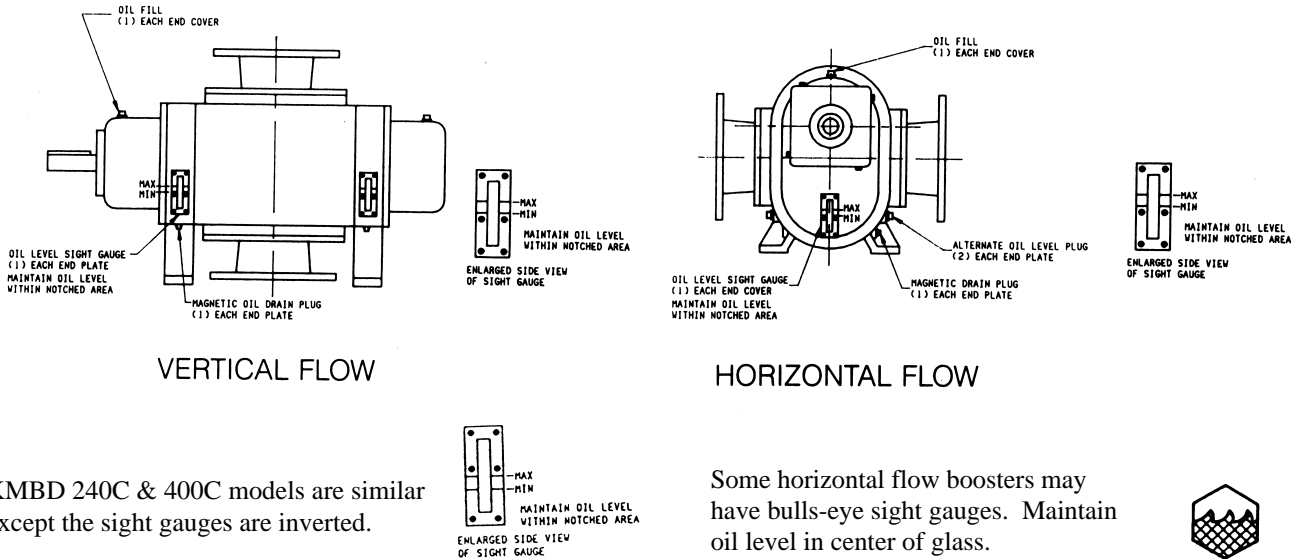

Figure 1 Lubrication
2. Pour oil through fill hole until oil appears in sight glass. Slowly bring oil up to center of glass. See Figure 1.
Check the oil for proper level at both ends of the booster. Add or drain oil as necessary to bring the oil to the correct level. See Figure 1. Too much oil particularly on the gear end can result in excessive heat generation. Too little oil will possibly result in failure of the timing gears, bearings, and mechanical seals.